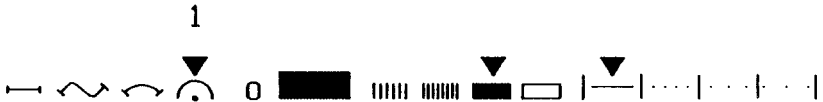

Fig 1
- 3 **S**elect the symbol marked (1) in Fig 1, from the palette.